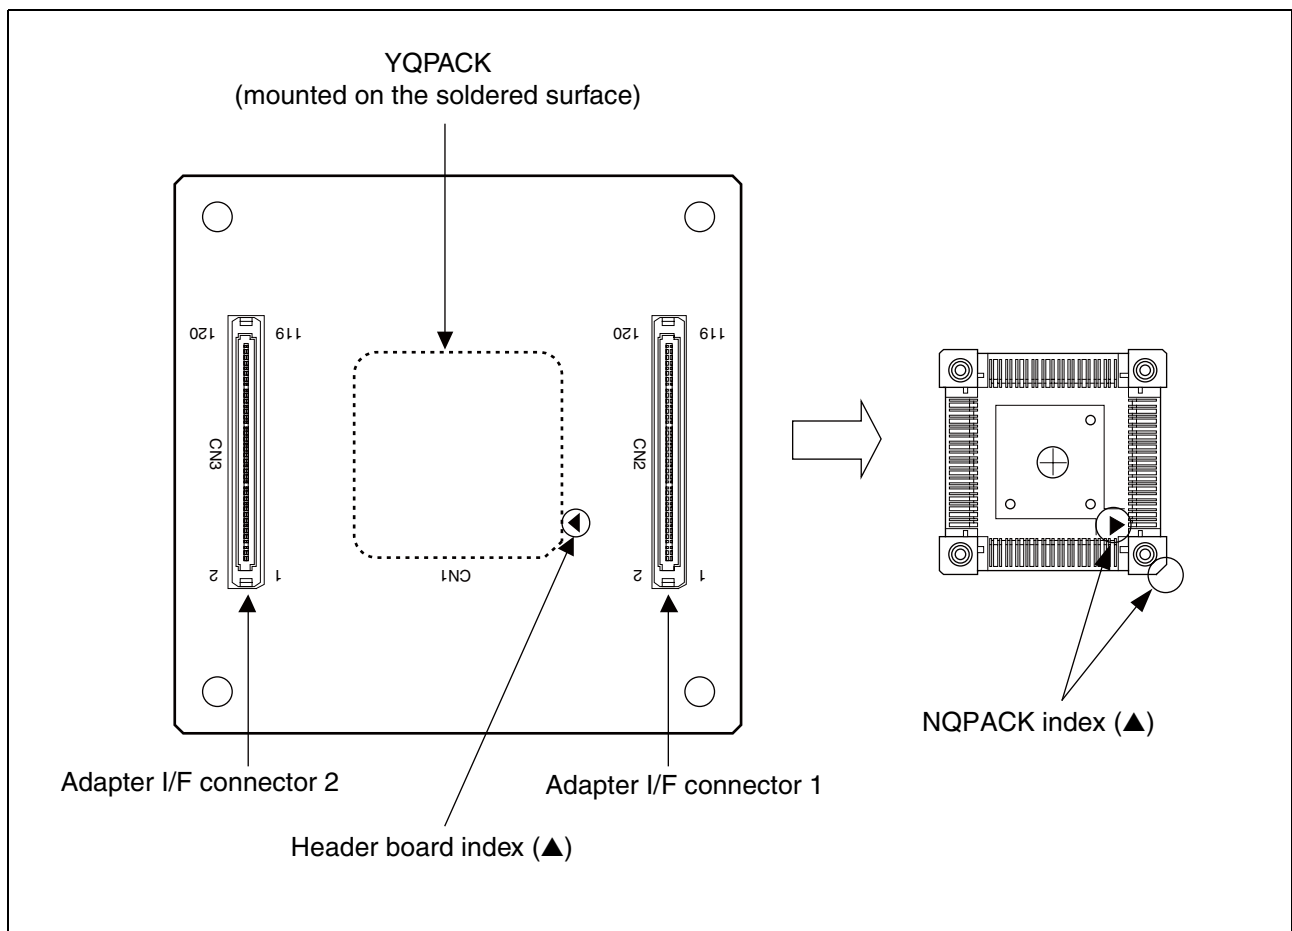

Figure 3 Index position
1. To connect the header board to the user system, match pin 1 indicated by the index mark (▲) on the NQPACK mounted on the user system with the index mark (▲) on the header board and then insert it (see “Figure 3”). The YQPACK pins are thin and easily bent. When you are connecting the YQPACK to the NQPACK, ensure that the YQPACK pins are not bent before pushing it all the way into the NQPACK.